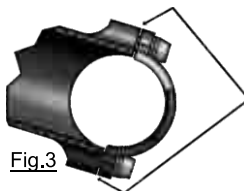

Fig.3
STEP 5 - Position the handlebar clamp face plate and secure lightly with the handlebar clamp bolts by turning the bolts in equal, small increments while making sure that the gap between face plate and stem at each bolt is absolutely equal to the gap at each other bolt (see Fig.3).